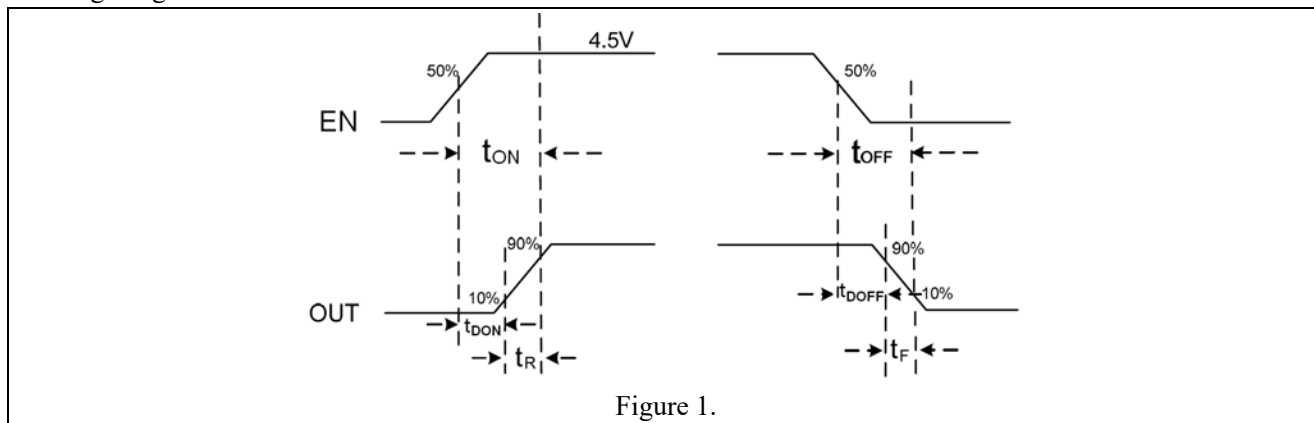

Figure 1.
- $t_{DON}/t_{DOFF}/t_R/t_F$ are defined in Figure 1.